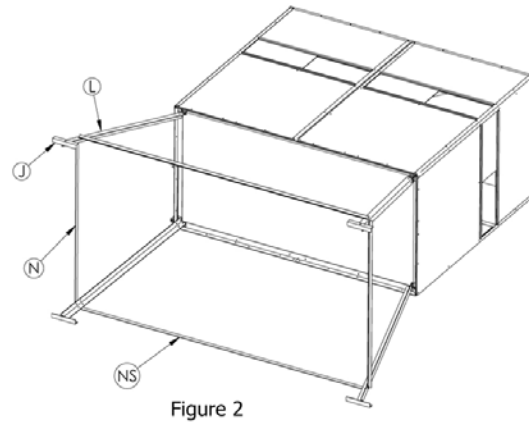
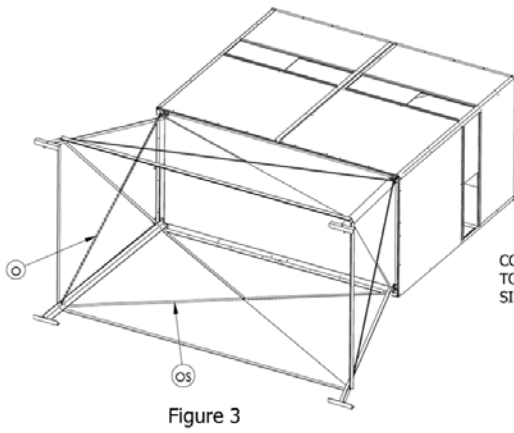

Figure 2
Figure 3
5. Complete the tower by adding all braces as shown. (Fig. 2 & Fig. 3)
6. Attach the (J) Feet as shown. (Fig. 2)